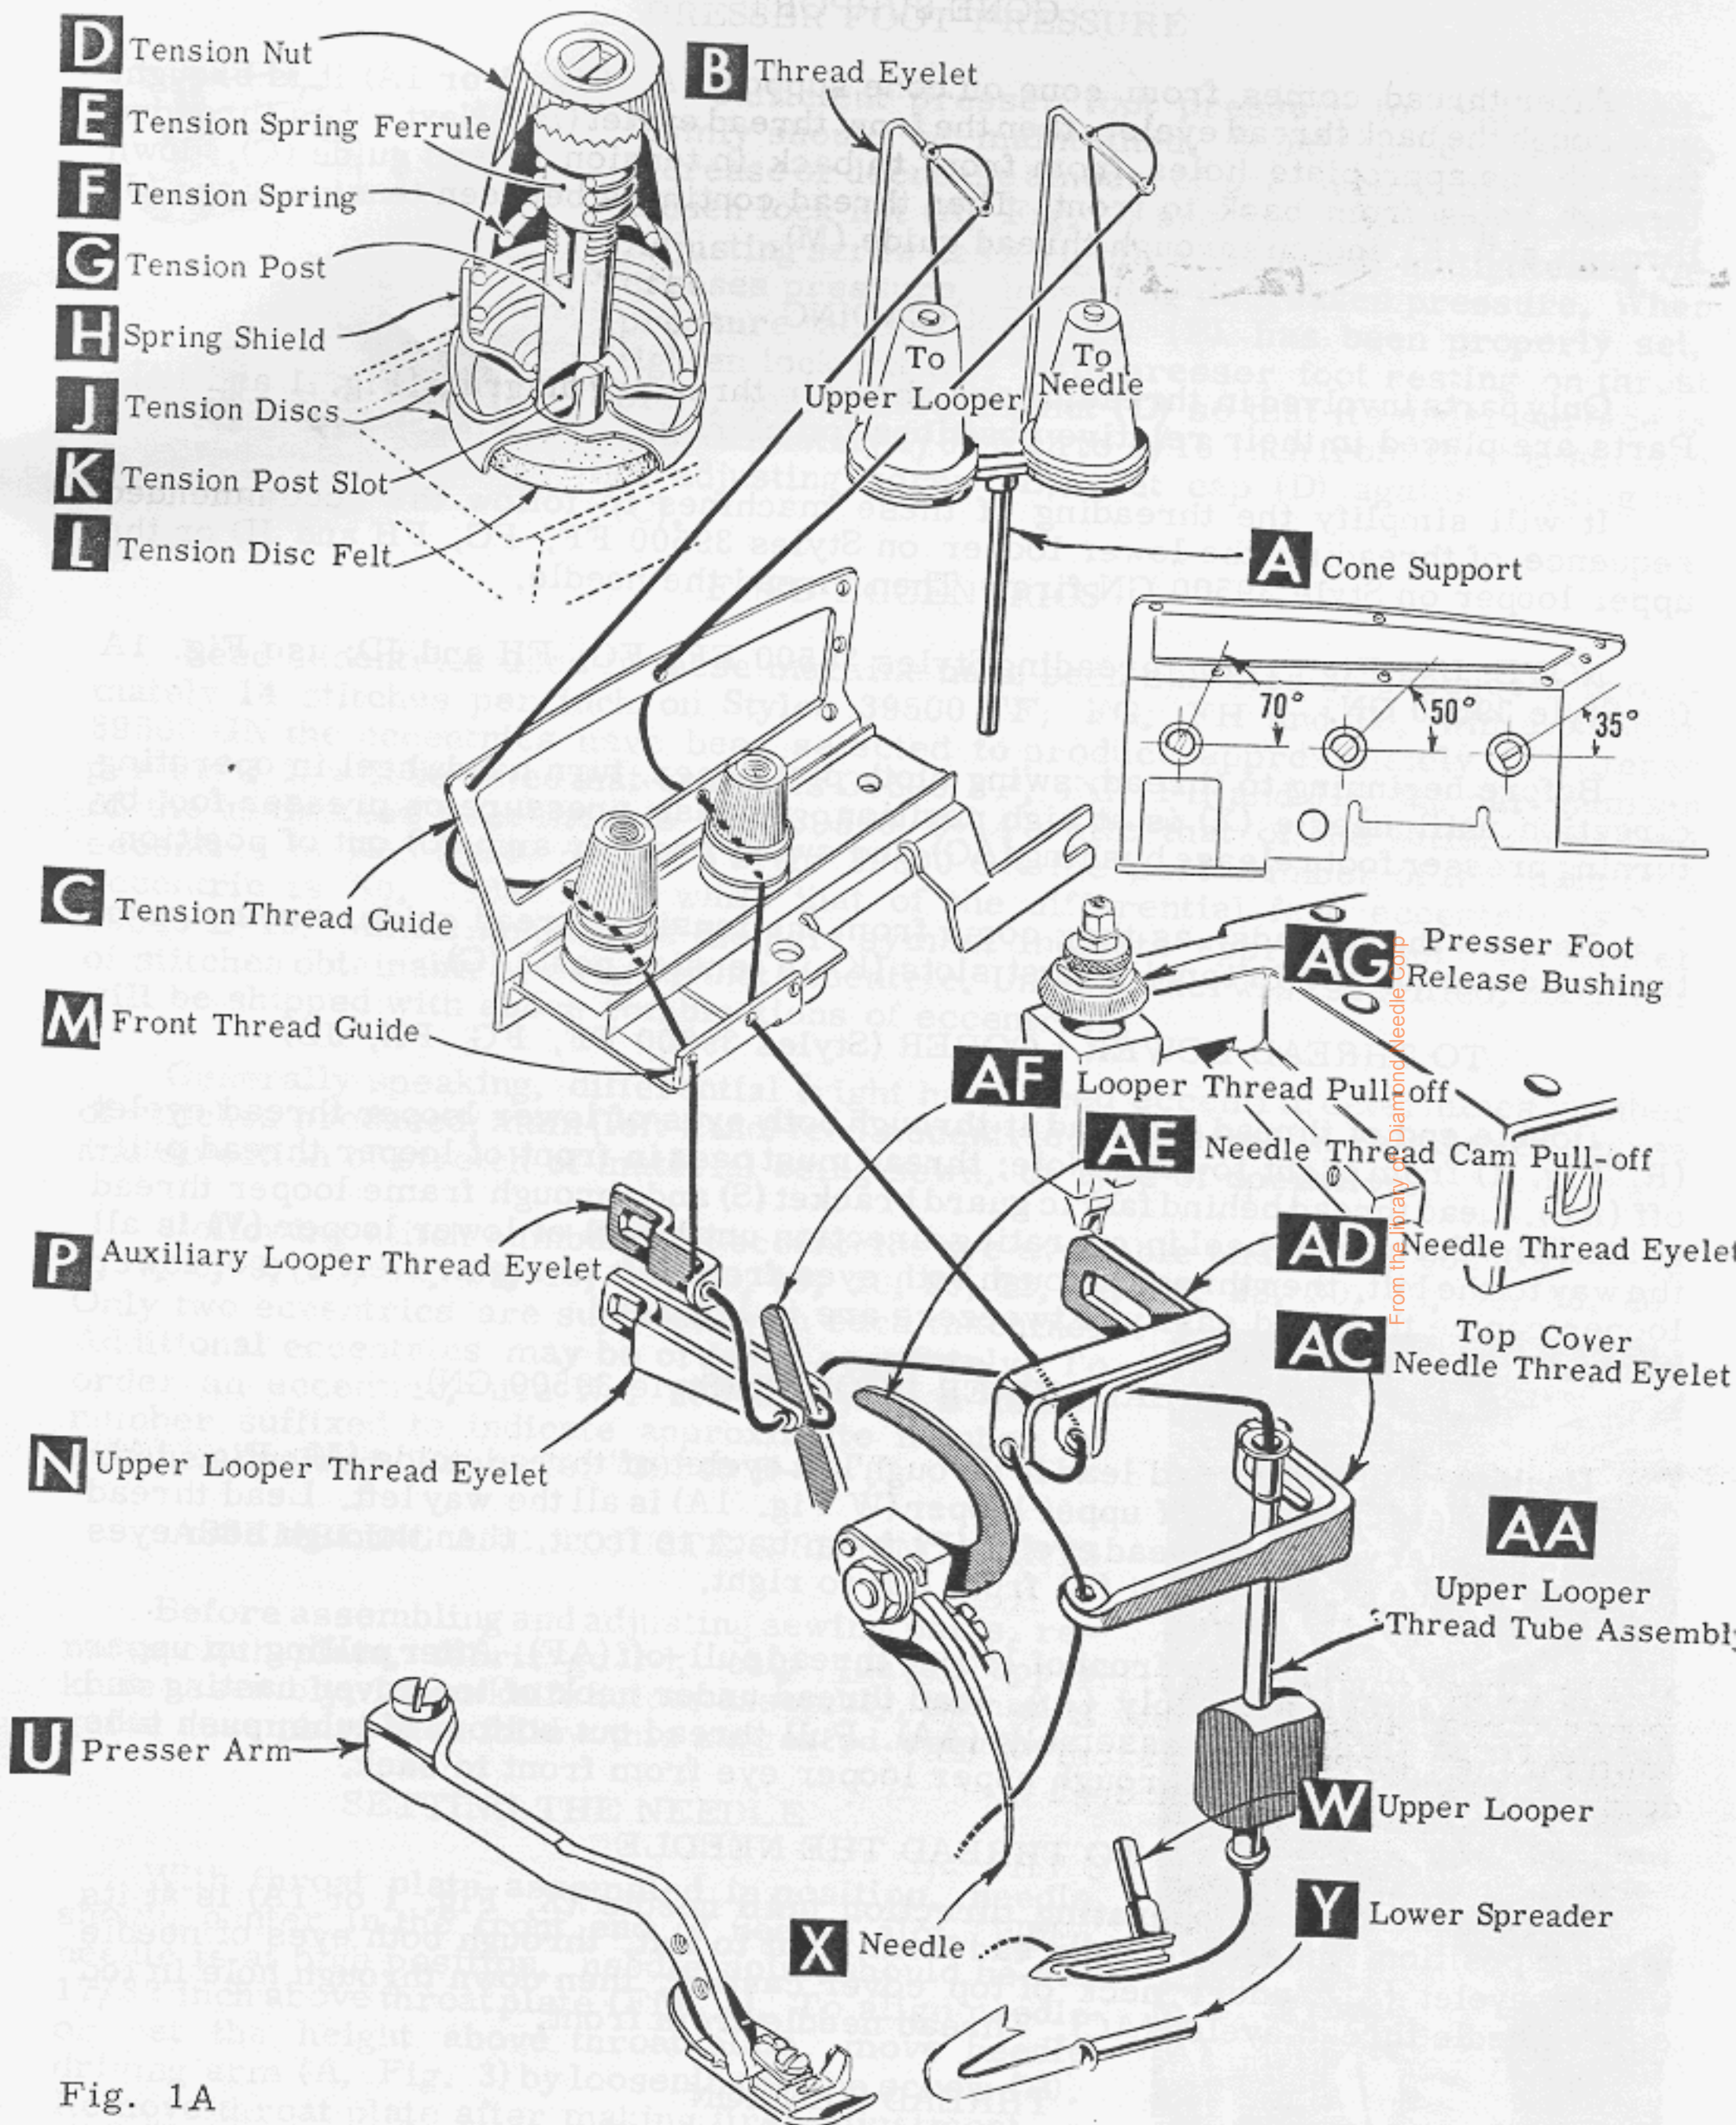

Fig. 1A
NOTE: Use Fig. 1 for threading Styles 39500 FF, FG, FH and JD; use Fig. 1A for Style 39500 GN.
Double end of thread and lead it through left eyelet of thread guide (M, Fig. 1A). Turn handwheel until point of upper looper (W Fig. 1A) is all the way left. Lead thread through auxiliary looper thread eyelet (P) from back to front, then through both eyes of upper looper thread eyelet (N) from left to right.